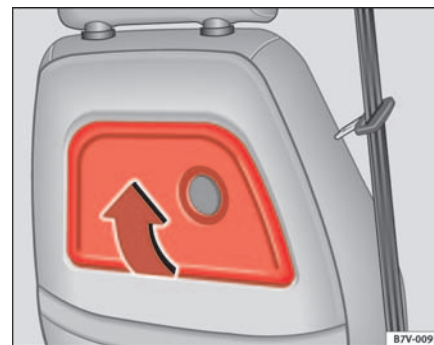

Fig. 107 Folding table on right-hand front seat
- Fold the table up in the direction of the arrow ⇒ **fig. 107** until it engages.
- Push the table down in the opposite direction of the arrow ⇒ **fig. 107** until it engages.